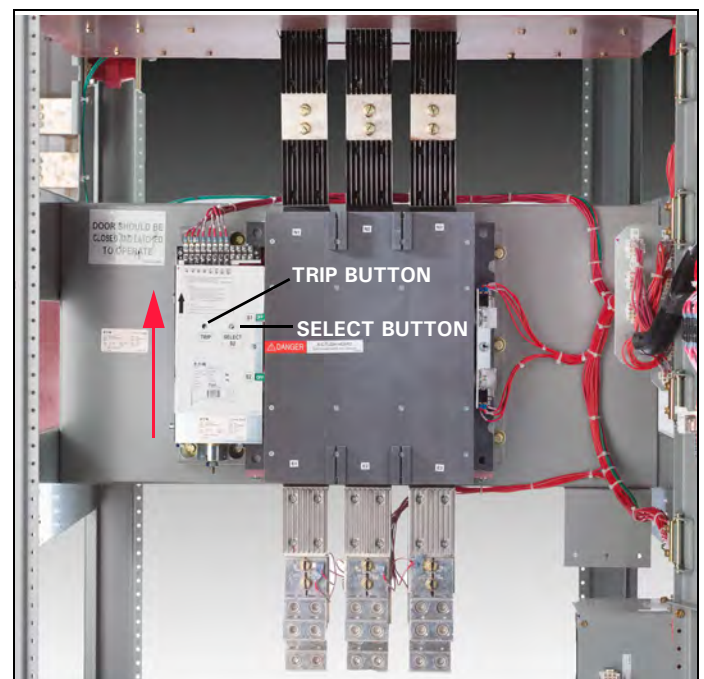

Figure 18. Troubleshooting Manual Operation of the Transfer Switch.
- Step 3:** Attach the handle to the manual lever (see Figure 18) and rotate the lever up to go to Source 1.